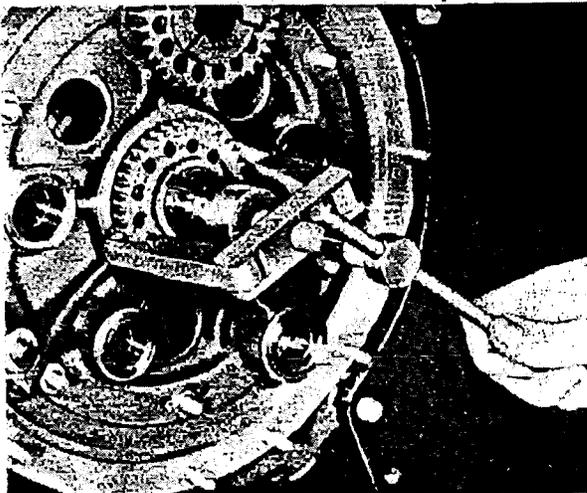
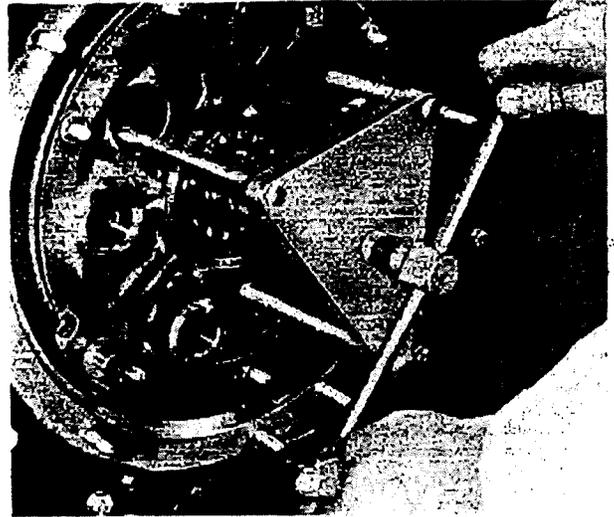

Figure 7 - Removing Magneto Drive Gear
Figure 8 - Removing Intermediate Bearing Plate
(4) Remove the Magneto Drive Gear with Puller (Tool No. T-11000). Refer to Figure 7.
(5) After the gears have been removed, carefully remove the two crankshaft cluster gear keys.
(6) Remove the magneto driven gear, accessory drive gear, and the oil pump drive gear.
(7) Remove the nuts and lock washers which hold the intermediate bearing plate to the rear crankcase and remove the intermediate bearing plate with Puller (Tool No. T-604-C). Refer to Figure 8.
(8) The engine must then be turned so that the crankshaft is in a vertical position with the rear of the engine toward the floor.
**g. Intake Pipes.-** (1) In removing the intake pipes it is advisable to loosen the packing nut with the Wrench (Tool No. 569-7) and Handle (Tool No. 569-5) on each intake pipe at the crankcase end before removing the cap screws or nuts on the intake port flanges at the cylinder end. If this is not done the pipe will turn and jam the packing nut.